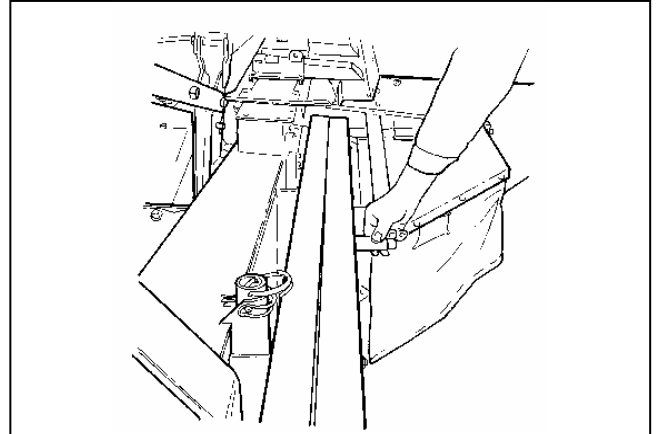

Fig. 30
- FIG. 30**      Mount stop for arm.